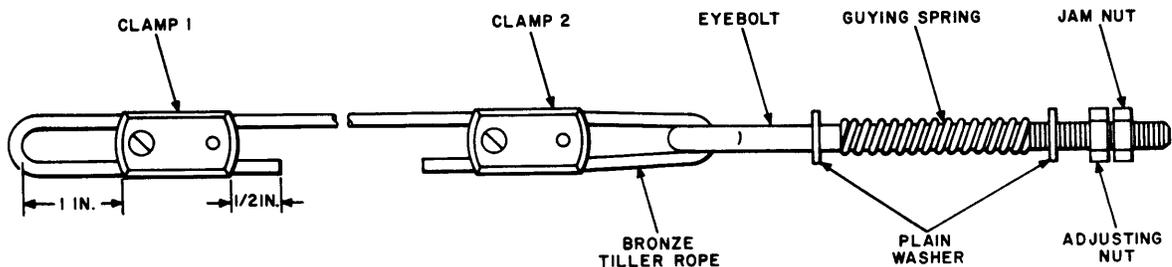

Fig. 9—Antenna Feed Guying Assembly
4.09 Three guying assemblies are used to provide additional support for the antenna feed. The guying assemblies (Fig. 9) consist of an eyebolt, a length of bronze tiller rope, two clamps, and a compression spring.
- (a) Loosen the two screws in clamp 1 on the free end of the tiller rope (Fig. 9).
- (c) Loop the tiller rope and push the free end into the clamp. Make a 1-inch loop and allow a 1/2-inch length to extend beyond the edge of the clamp as shown in Fig. 9. Tighten the two screws to secure the tiller rope.
- (g) If the guying assembly spring cannot be compressed, due to slack in the tiller rope, loosen the jam and adjusting nuts. Then loosen the two screws in clamp 2 which secures the tiller rope to the eyebolt (Fig. 9). Pull the tiller rope through the eyebolt until the rope is taut. Tighten the two screws to secure the tiller rope and repeat step (f).